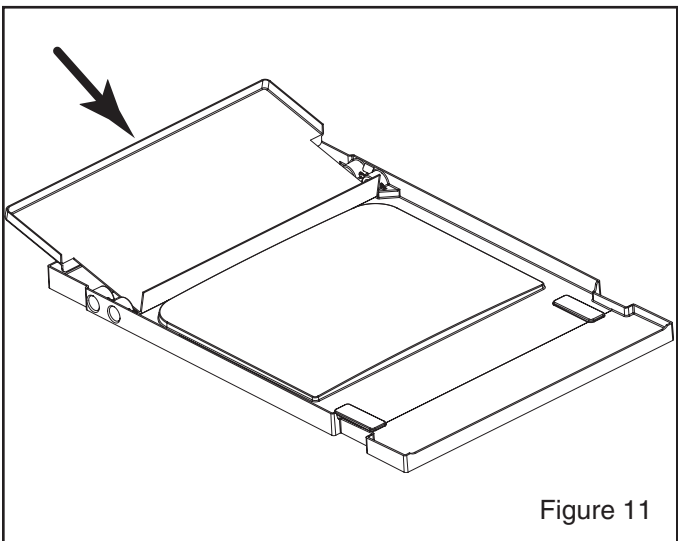

Figure 11
Note: Some replacement coils ship with a horizontal drain pan extension. For horizontal left or right applications, install horizontal drain pan extension when applicable. See Figure 11.
- NOTE:** Some replacement coils ship with a horizontal drain pan extension. For horizontal left or right applications, install a horizontal drain pan extension when applicable. See Figure 11.